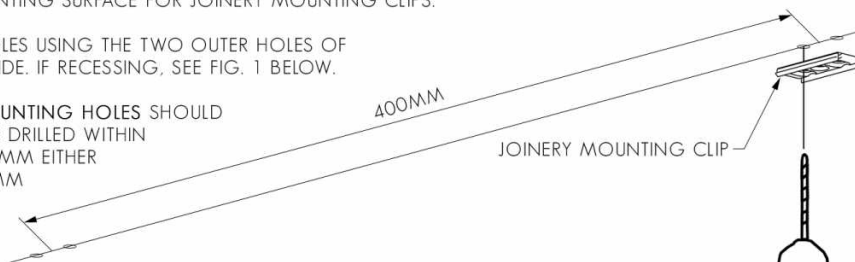

FIG. 1 - IF RECESSING EXTRUSION, USE SMALL EXTRUSION OFF-CUT TO ALIGN JOINERY MOUNTING CLIPS.
2. USING THE LINE, DRILL MOUNTING HOLES USING THE TWO OUTER HOLES OF THE JOINERY MOUNTING CLIPS AS A GUIDE. IF RECESSING, SEE FIG. 1 BELOW.